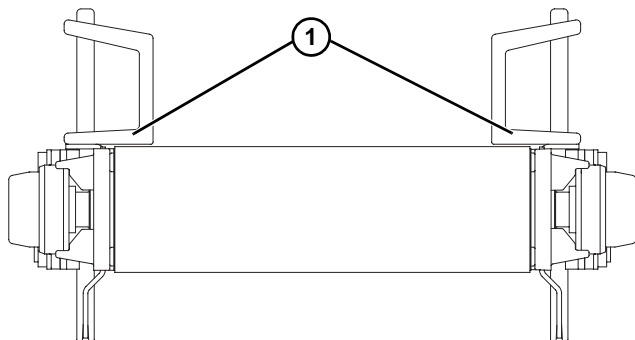

Figure 60
For UHMW guides, install guides with horizontal side (Figure 60, item 1) down.